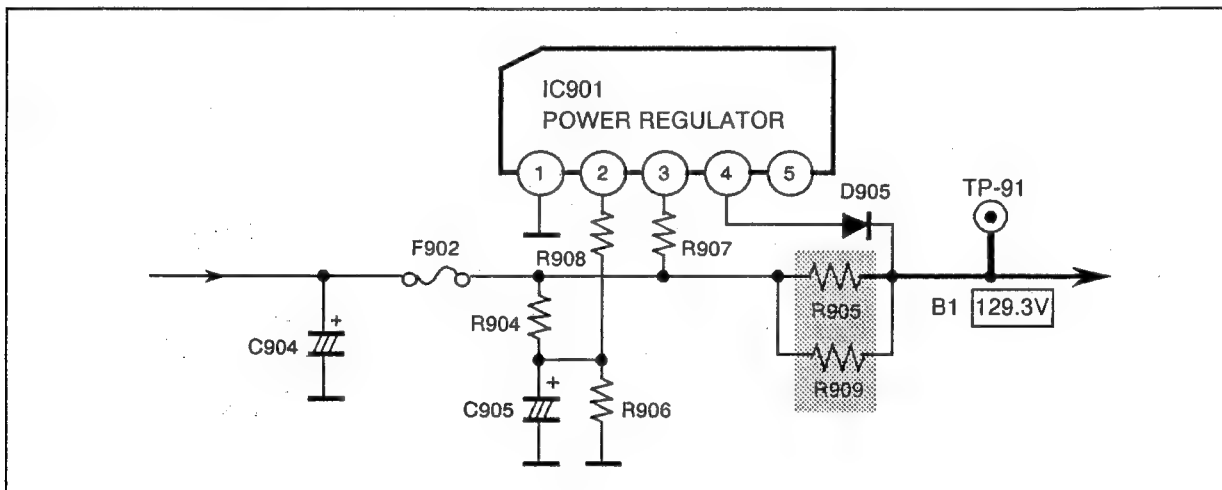

Fig. 2
- (1) Make the short circuit across R905 and R909, (shown in Fig. 2) under normal operating condition.
- (2) Confirm the picture goes out.